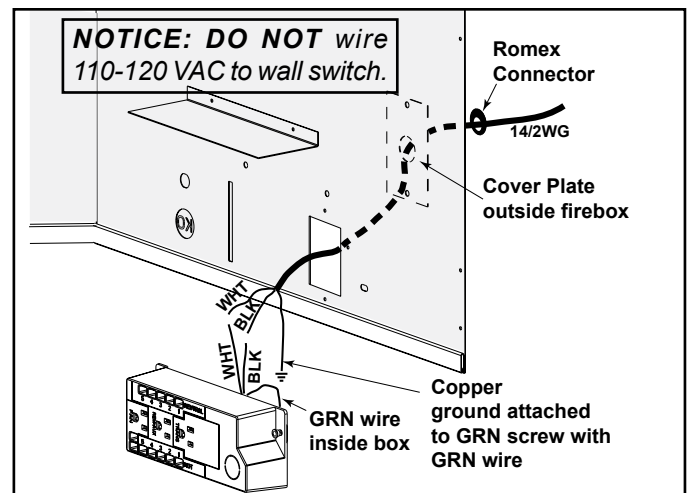

Figure 8.4. Junction Box Wiring (Generic Model Shown)
- Pull the electrical wires from outside the appliance through the opening into the valve compartment and secure wires with a Romex connector. See Figure 8.4.